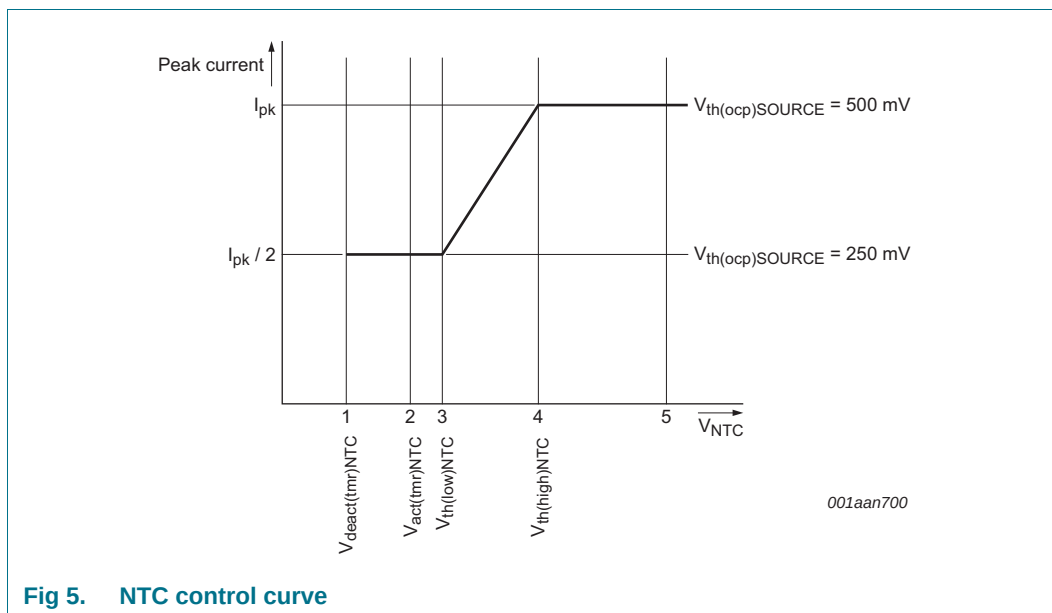

Fig 5. NTC control curve
The NTC pin can be used as a control method for LED thermal protection. Alternatively, the pin can be used as an input to disable/enable light output using a digital signal (PWM current regulation). The pin has an internal current source that generates the current of $I_{offset(NTC)}$. An NTC resistor to monitor the LED temperature can be directly connected to the NTC pin. Depending on the resistance value and the corresponding voltage on the NTC pin, the converter reacts as shown in Figure 5.
When the voltage on the NTC pin is higher than $V_{th(high)NTC}$ see Figure 5 (4), the converter delivers nominal output current. When the voltage is lower than this level, the peak current is gradually reduced until $V_{th(low)NTC}$ is reached, see Figure 5 (3). The peak current is now half the peak current of nominal operation. When $V_{act(tmr)NTC}$ is passed, see Figure 5 (2) a timer starts to run to distinguish between the following situations:
- If the low-level $V_{deact(tmr)NTC}$ is not reached within time $t_{to(deact)NTC}$, Figure 5 (1) LED overtemperature is detected. The IC stops switching and attempts to restart from the HV pin voltage. Restart takes place when the voltage on NTC pin is higher than $V_{th(high)NTC}$, see Figure 5 (4). It is assumed that the reduction in peak current did not result in a lower NTC temperature and LED OTP is activated.
- If the low-level $V_{deact(tmr)NTC}$ is reached within the time $t_{to(deact)NTC}$, Figure 5 (1) it is assumed that the pin is pulled down externally. The restart function is not triggered. Instead, the output current is reduced to zero. PWM current regulation can be implemented this way. The output current rises again when the voltage is higher than $V_{deact(tmr)NTC}$.
The NTC pin can be used to make a soft start function. During switch-on, the level on the NTC pin is low. By connecting a capacitor (in parallel with the NTC resistor), a time constant can be defined. The time constant causes the level on the NTC pin to increase slowly. When passing level $V_{th(low)NTC}$ Figure 5 (3), the convertor starts with half of the maximum current. The output current slowly increases to maximum when $V_{th(high)NTC}$ Figure 5 (4) is reached.